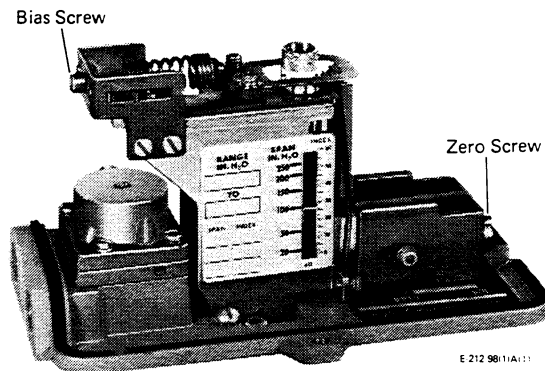

Figure 7—Zero Adjustments
3. If output does not agree with the value obtained in Step 2, remove cover and turn *bias screw*, Figure 7, to obtain required output.